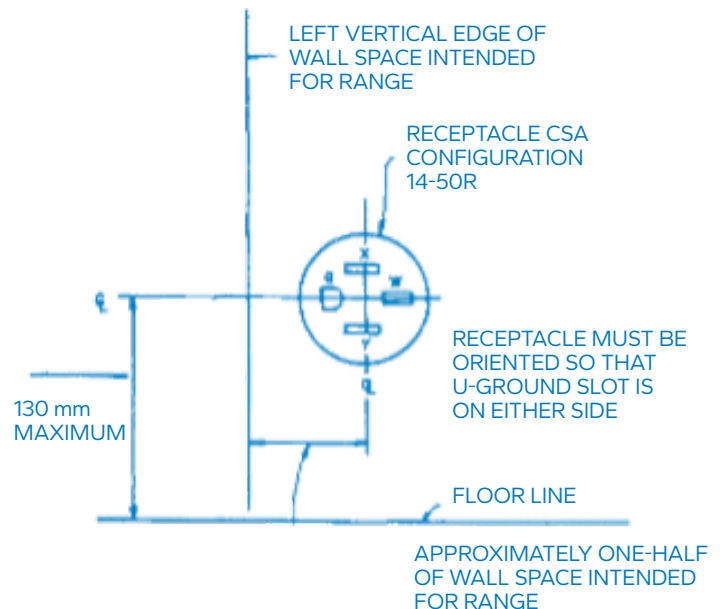

Figure 2 - Range receptacle installation
- g) **Range** – A separate receptacle must be located in approximately the centre of the wall space where the range is located (130 mm maximum from the floor and oriented as shown in Figure 2).